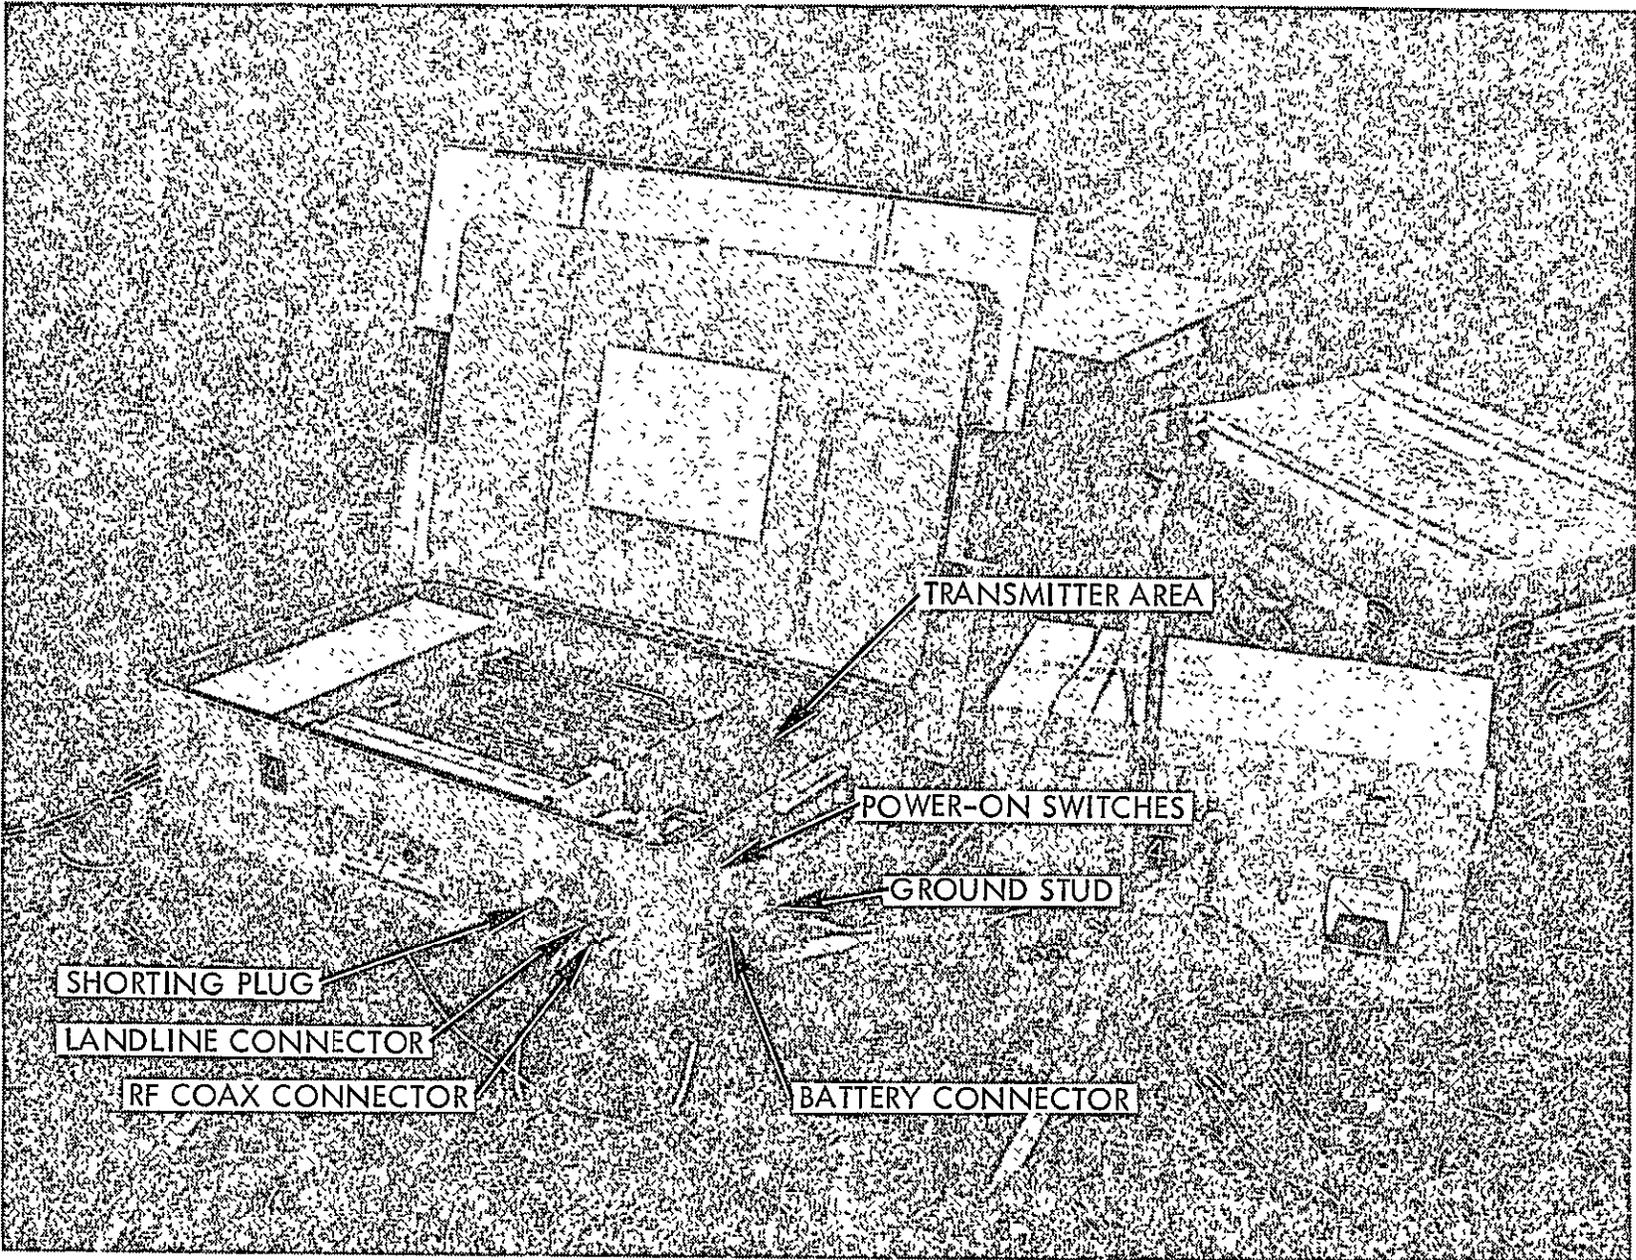

Fig. 20. Electronics for RES
- 1) Perform the array pretest inspection outlined in Section XI (Fig. 20). If deficiencies are found, perform step 2; if not, begin at step 3.